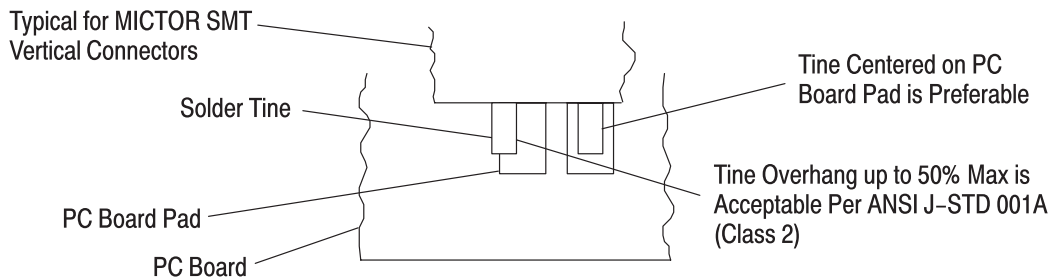

Figure 6
- NOTE** Optimally, the connector solder tines should be centered on the pc board pads. However, slight misalignment is permissible. See Figure 6.